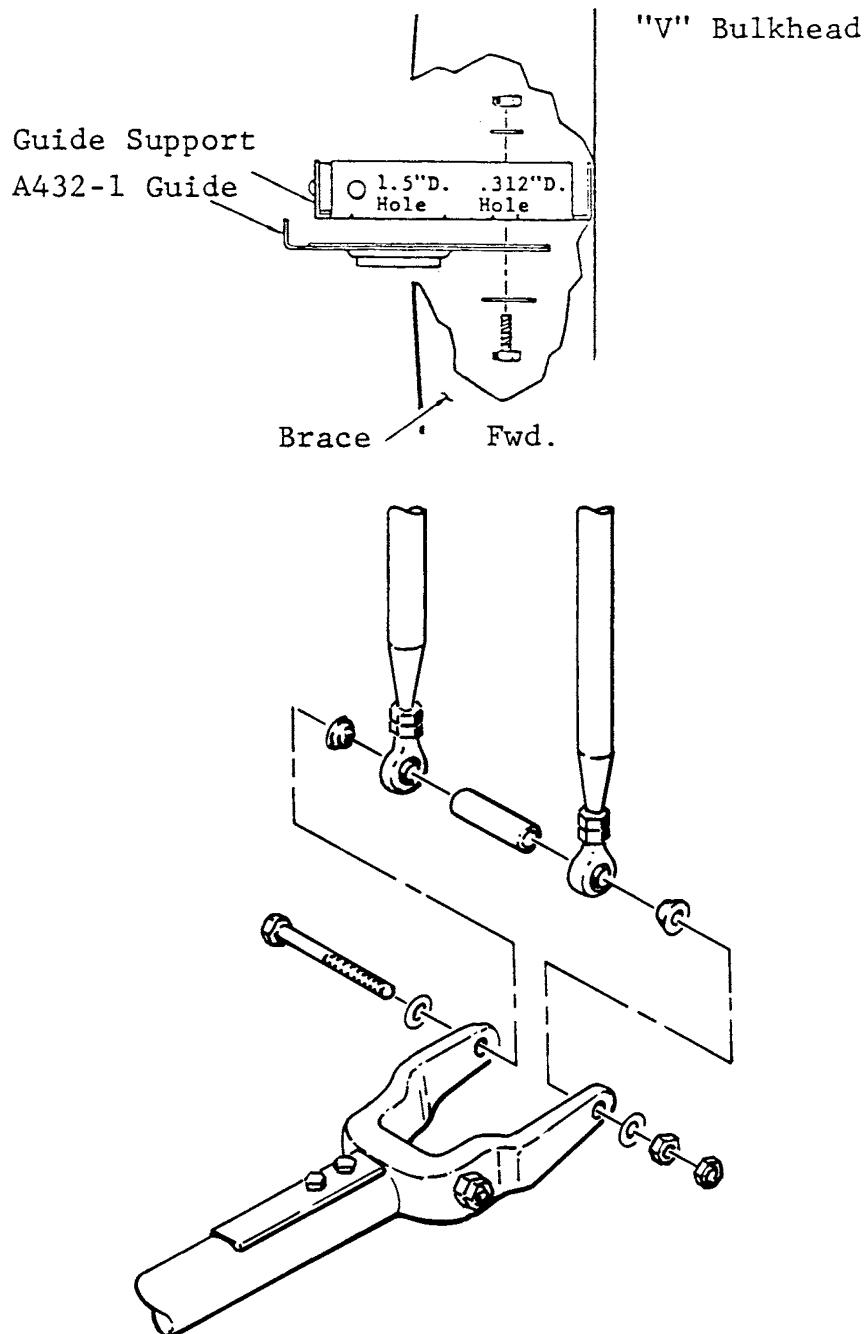

FIGURE 8-4E PUSH-PULL TUBES AND GUIDE
- b) Loosely (snug) install moveable guide on underside of airframe support A439-1 per Figure 8-4E.
- c) Install A121-7 P-P tube, ensure spacers installed properly. Reference Figure 8.4E. Torque attach bolt 100 in.-lb. plus nut drag.
- e) Raise collective approximately seven (7) inches (measured from pilot throttle handle to center panel) with cyclic neutral.